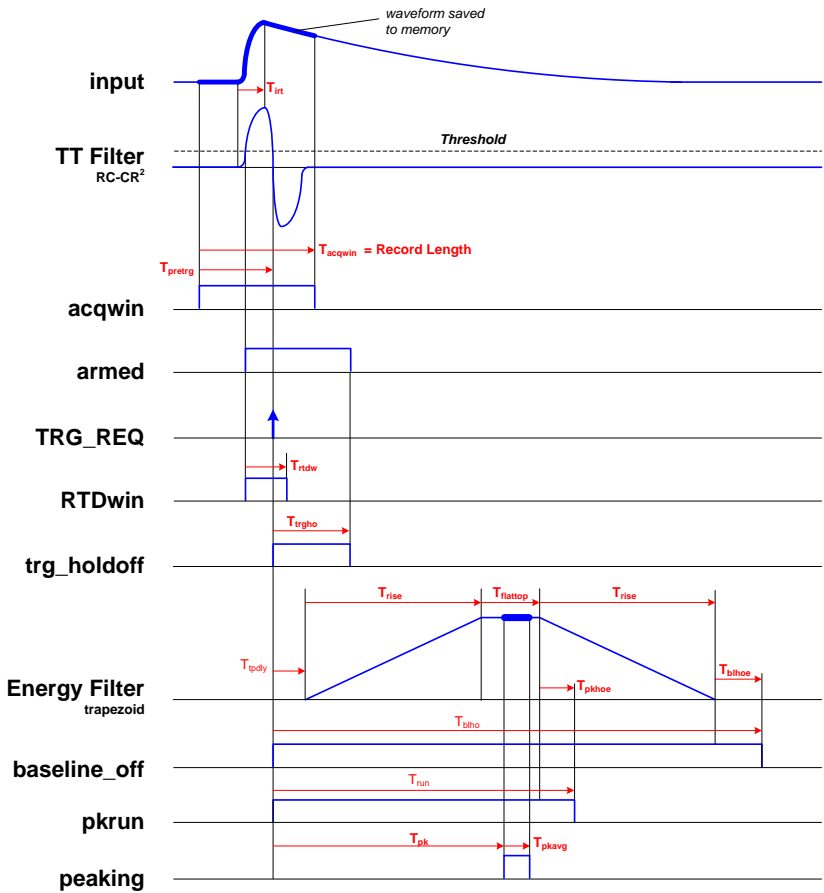

Fig. 4.3: Timing diagram (Normal Trigger Mode)
In the DPHA the input pulse is fed into a Trigger and Timing Filter for the proper trapezoid calculation. When its output exceeds the programmed threshold, the trigger logic gets armed (the signal “armed” goes high), then it waits until the zero crossing to fire the Trigger Request TRG_REQ (**Fig. 4.3**). It is also possible to enable the Rise Time Discriminator whose purpose is to detect double pulses the pile-up on the rising edge; in fact, in this case, the rise time of the input signal gets longer. The user can define an acceptance window RTDwin timed by the armed signal; if no TRG_REQ (zero crossing) occurs within that window, then the trigger logic assumes that two or more pulses are piling up and two triggers are issued. The RTD is disabled when $Trtdw = 0$.
- 0010 = "Peak Run": starts with the trigger and last for the whole event (see **Fig. 4.3**)